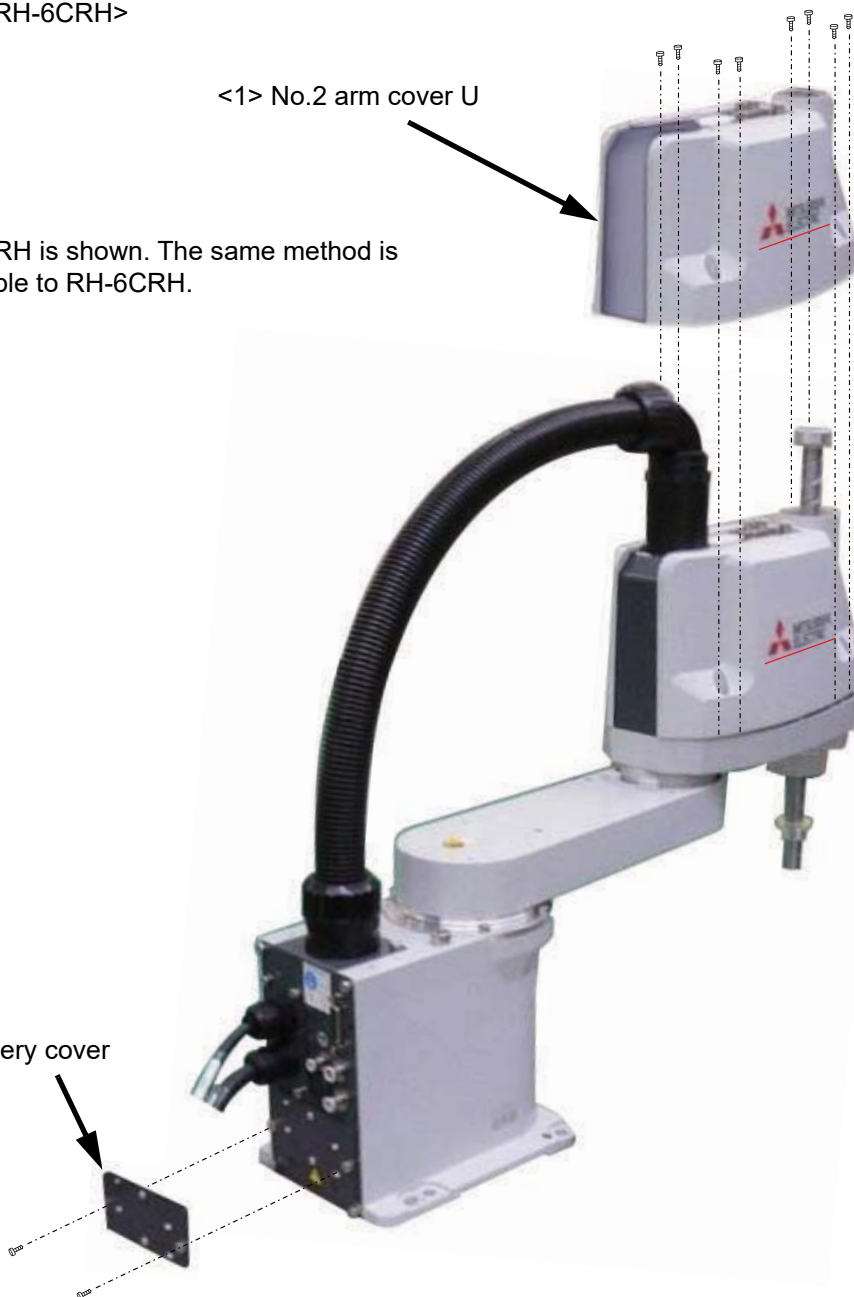

Fig.5-2:Installing/removing the cover (RH-3CRH, RH-6CRH)
- (1) Refer to Fig. 5-2 and Fig. 5-3 to remove the covers.
- (2) The names of the covers are given in Table 5-4.
- (3) When installing the cover after maintenance and inspection, use the procedure of removal in reverse.